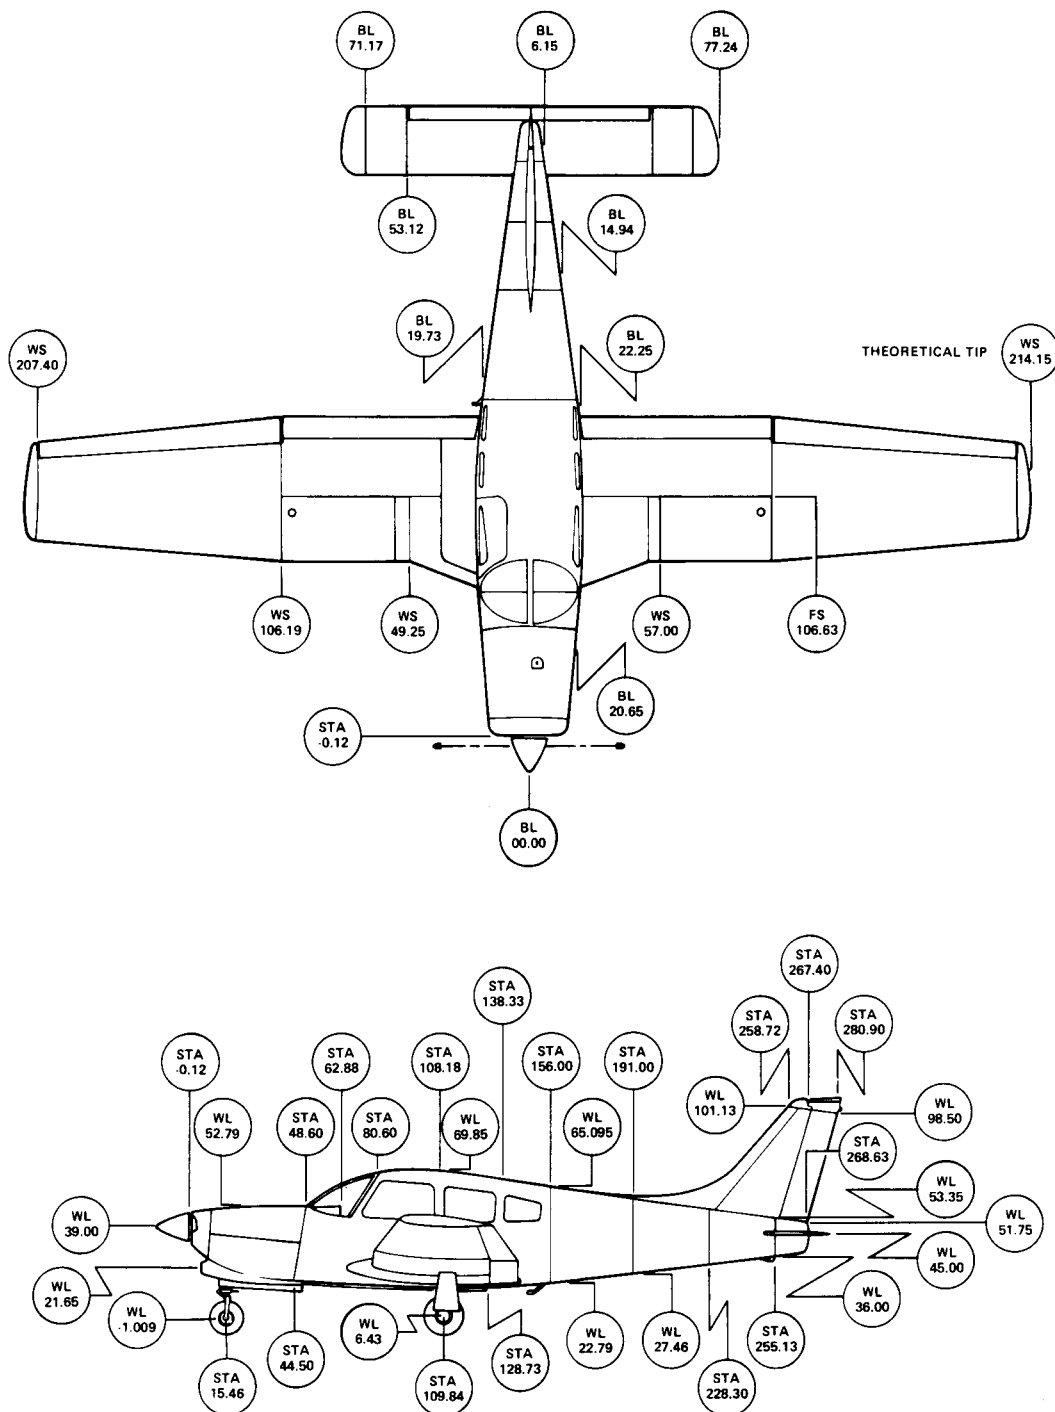

Figure 2-3. Station Reference Lines of PA-28R-201T
2-3. STATION REFERENCE LINES. In order to facilitate the location of various components of the airplane which require maintenance and servicing, a method utilizing fuselage station (Sta.) wing station or buttock line (BL), and water line (WL) designations is frequently employed in this manual. (Refer to Figures 2-3 and 2-4.) Fuselage stations, buttock and water lines are reference points measured by inches in the vertical or horizontal direction from a given reference line which indicates station locations of structural members of the airplane. Station O of the fuselage is 44.5 inches ahead of the lower edge of the firewall; station O (BL) of the wing and stabilator is the centerline of the airplane; and station O (WL) of the fuselage vertical stabilizer and rudder is 20.5 inches below the cabin floor as measured at the rear wing spar with the airplane level.